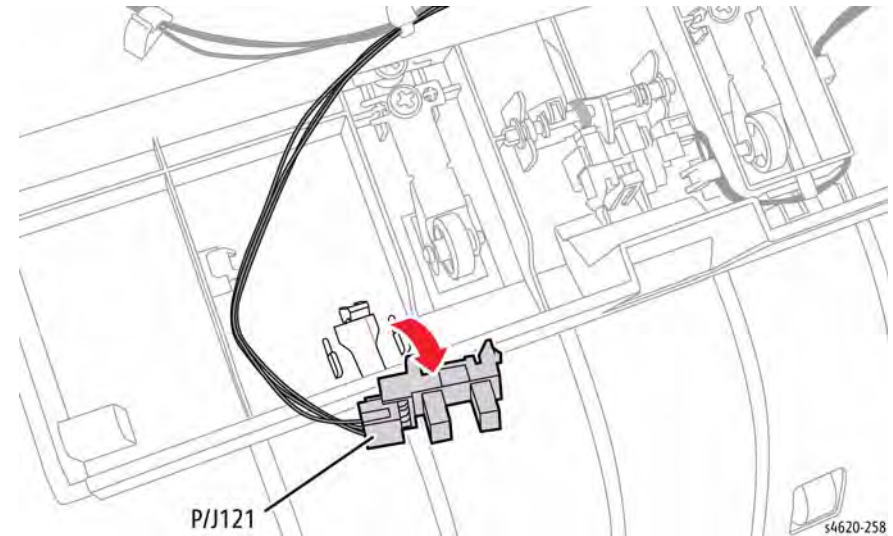

Figure 1 Remove the Rear Door Open Sensor
6. Disconnect P/J121 to remove the sensor, Figure 1.